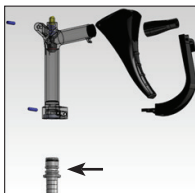

Figure 6
4. Remove the hose barb (Figure 6).